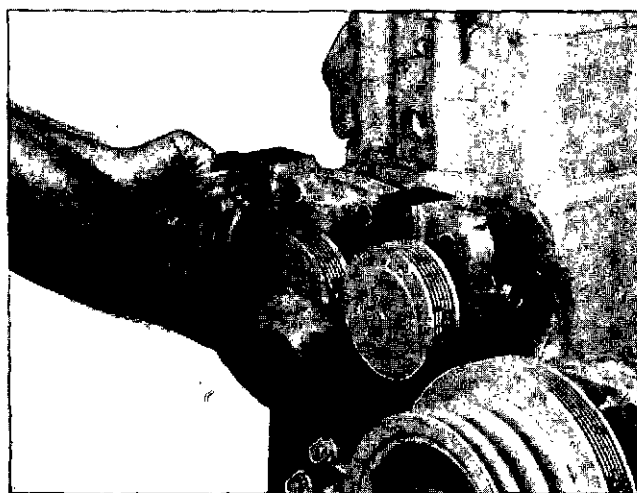

Fig. 0-32. Remove The Water Pump.
9. Remove the water pump and discard the gasket, Fig. 0-32.